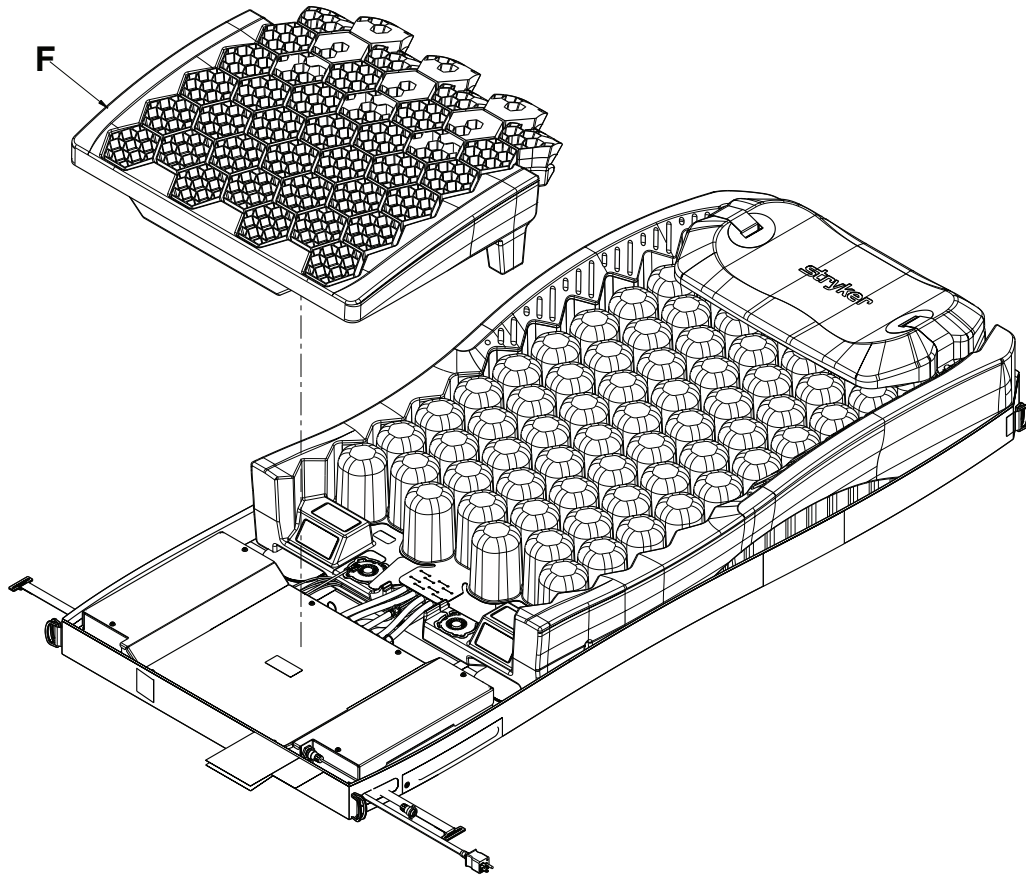

Figure 10 – Gel crib
11. Lift up and remove the foot section gel crib (F) (Figure 10). Save the gel crib.